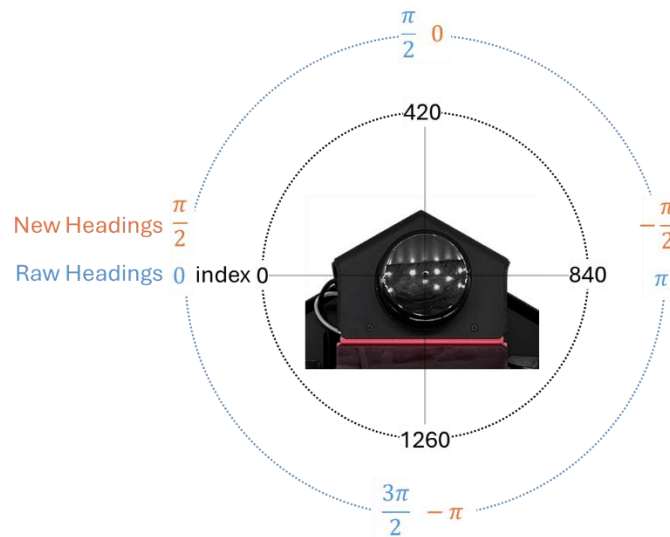

Figure 1. LiDAR measurement correction
3. Notice in `adjust_and_subsample()` under `QBPRanging()`, heading angles from the LiDAR sensor are multiplied by -1 and added to  $\pi/2$ . This is to correct the headings such that the angle value of 0 corresponds to the front of the QBot, as shown in Figure 1. In addition, the angles are now increasing counterclockwise, consistent with the positive convention of our reference frame. Furthermore, this function returns every 4th element in the distance and angle data, effectively downsampling these signals fourfold. Downsampling is beneficial in the obstacle detection application as it allows for faster computation when high resolution is not necessary.